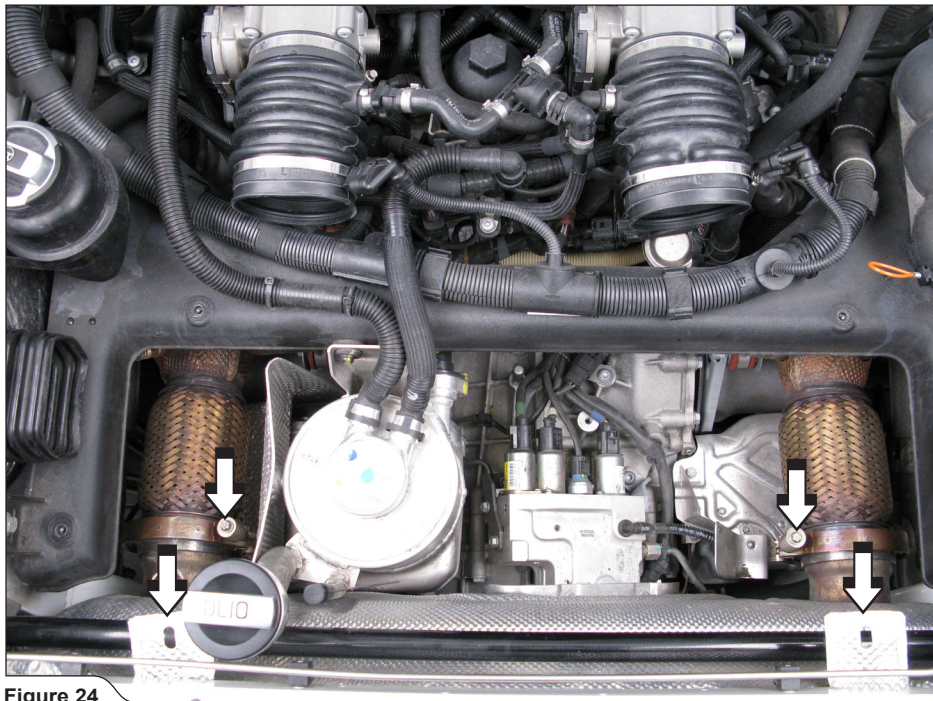

Figure 24
17. Unscrew and remove the clamps at down pipes - muffler intakes connections and carefully bend the marked parts of the muffler's heat shield, as shown (Figure 24).